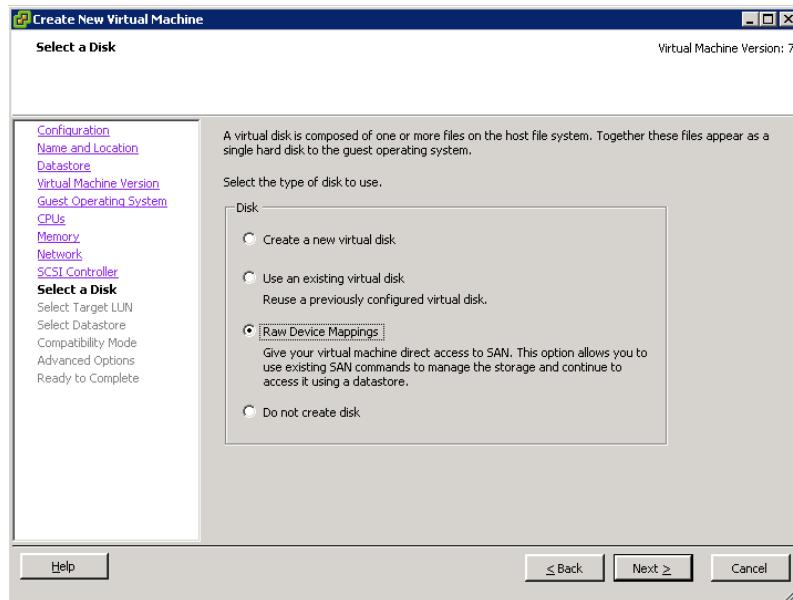

Figure 5-39. Create New Virtual Machine—Select a Disk
6. Select a disk. In this example, click **Raw Device Mappings**, and then click **Next** (Figure 5-39).